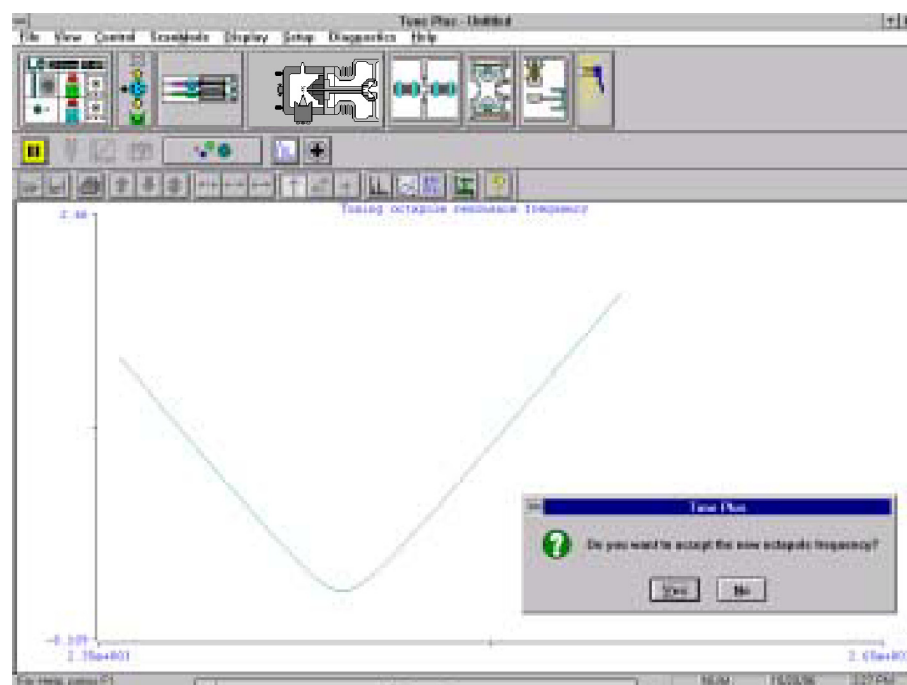

Figure 5-10. Graph view for octapole RF voltage tuning
- c. Click on the **Start** button to start the quadrupole/octapole RF voltage tune program. A frequency function appears in the Graph view. See Figure 5-10. The minimum of the frequency function should lie between 2400 and 2550 kHz.